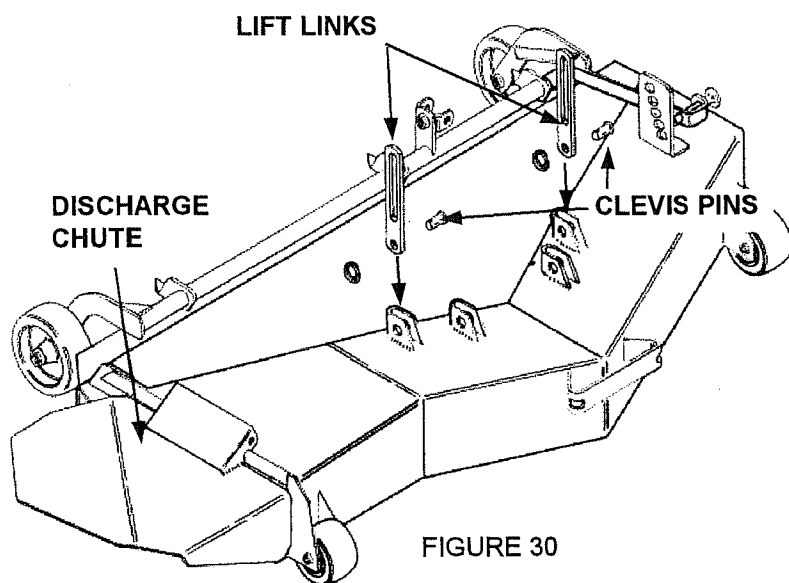

FIGURE 30
1. Fasten the lift links to the deck as shown in figure 30. Use the 1/2" x 1" clevis pins and wire rings.